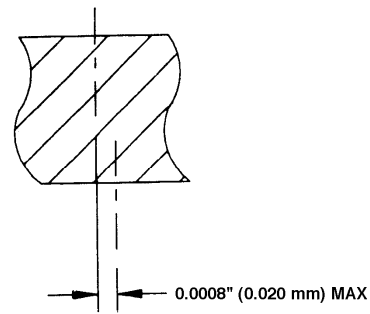

**Figure 7**
*offset alignment accuracy* — The top to bottom alignment accuracy of the etched leadframe operation (see Figure 7).